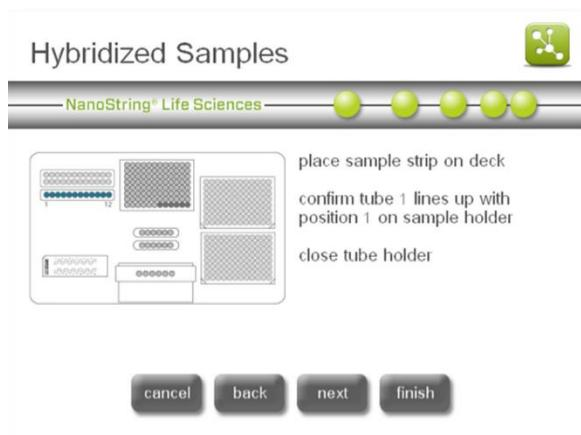
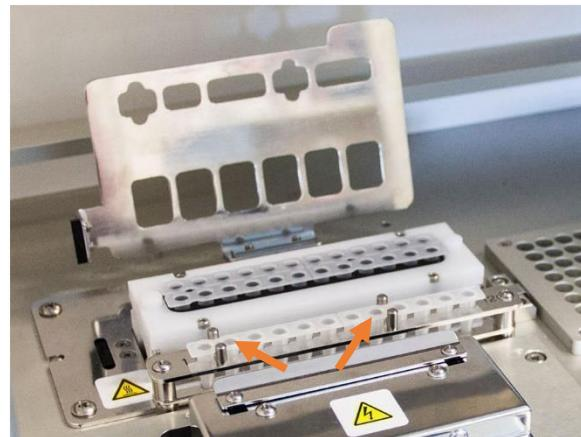

Figure 29: The 'Hybridized Samples' screen
Figure 30: Hybridization sample strip tubes with notched orientation guides.
12. The 'Hybridized Samples' screen will appear (**Figure 29**). Lift the lid and place hybridized sample strip tube on the deck of the Prep Station, ensuring that tube 1 aligns with position 1 (**Figure 30**). Note that the strip tube is asymmetrically keyed, and if the strip tube is placed incorrectly, the lid won't close properly and the Prep Station will not be able to start processing. Press **next**.